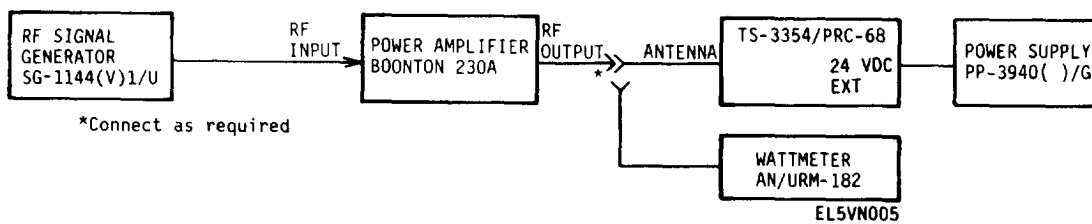

Figure 5-4. RF Power Detection and Metering Circuit Test Setup
19	Connect equipment as shown in figure 5-4. Place test set FUNCTION switch in XMT position. Place power switches on rf signal generator and power amplifier in ON position and adjust them for an output of 54.05 MHz. Set wattmeter to the 2.5 watt range.
- (1) RF Signal Generator SG-1144(V)1 /U
- (2) Power Amplifier, Boonton 230A
- (3) Wattmeter AN/URM-182
- (4) Power Supply PP-3940/G
- b. *Test Connections and Conditions.* Connect equipment as shown in figure 5-4. Set power supply voltage to 24 vdc.